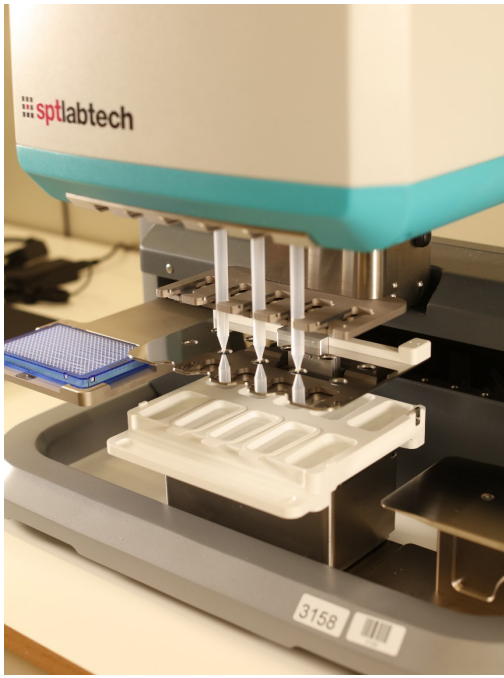

Figure 34. Reservoir tray in aspirate position
- Carefully slide the reservoir tray back to the aspirate position (*Figure 34*).